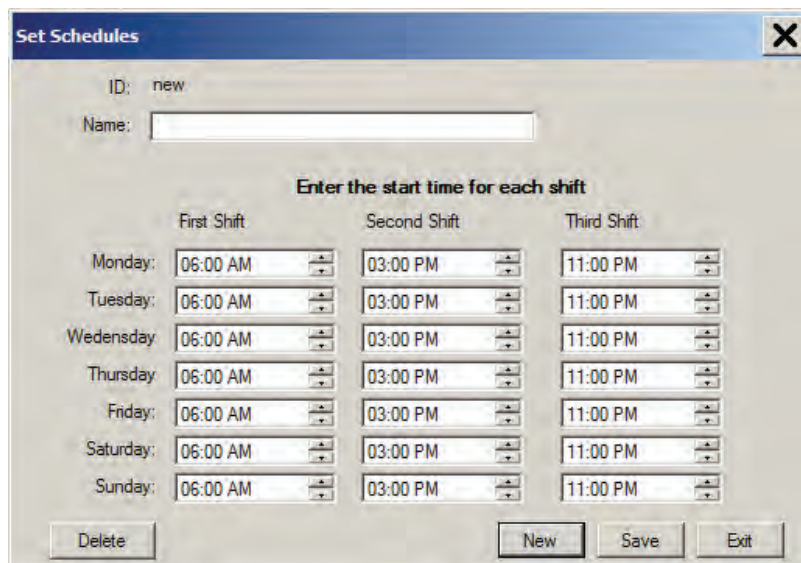

Figure 49. Set Schedules dialog box.
2. Right-click the highlighted **Schedules** item and select **New** to open the *Set Schedules* dialog box (see Figure 49).